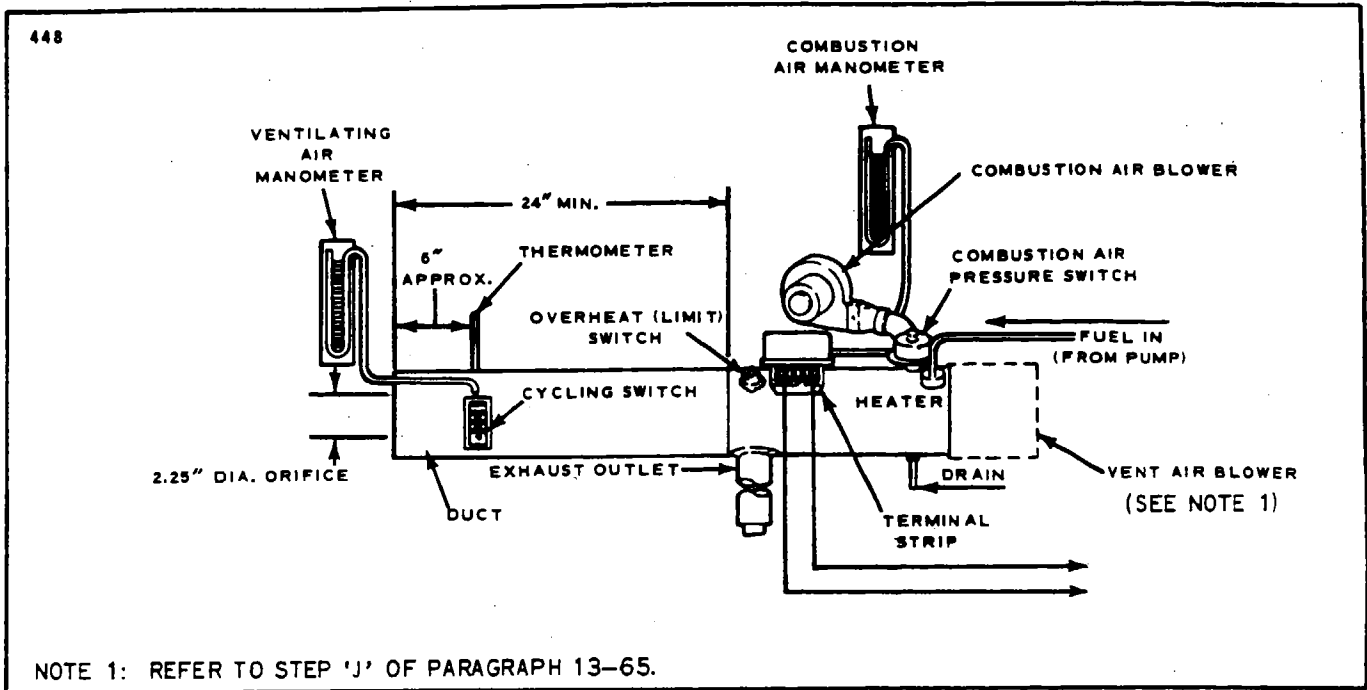

Figure 13-17. Suggested Setup For Heater Operation Test
13-65. EQUIPMENT REQUIRED. (See Figure 13-17.)
- f. A piece of duct to be attached to the downstream end of the heater. It should have a minimum length of 24 inches and the same diameter as the heater being tested. A 2.25 inch diameter orifice should be centrally located at the outlet end. An aperture should be provided for the thermometer and the cycling switch that is used with the heater (see Paragraph 13-47a), and a static tap should be attached as shown in Figure 13-17.
13-66. OPERATIONAL TEST. (Refer to Figure 13-17 and 13-18.)